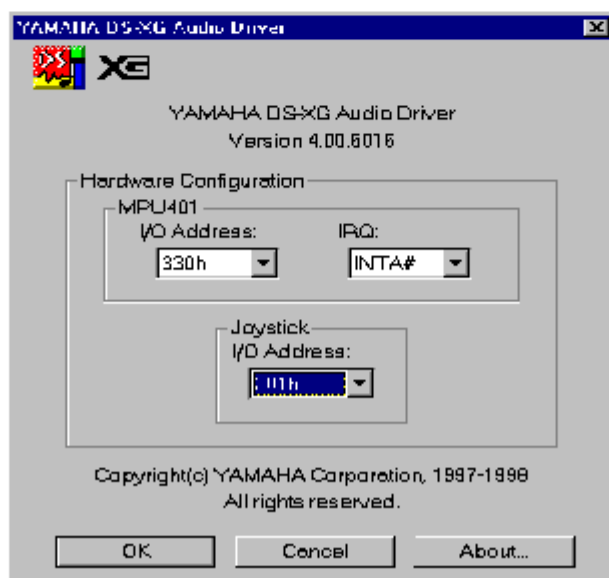

Figure 2-4 The YAMAHA DS-XG Audio Driver window.
- 10) Windows NT will now copy the necessary files to your computer. When the YAMAHA DS-XG Audio Driver window appears, verify that the MPU401 I/O address, IRQ, FMI/O address and Joystick I/O address settings are correct as shown in Figure 2-4 below. Click the **OK** button to continue.